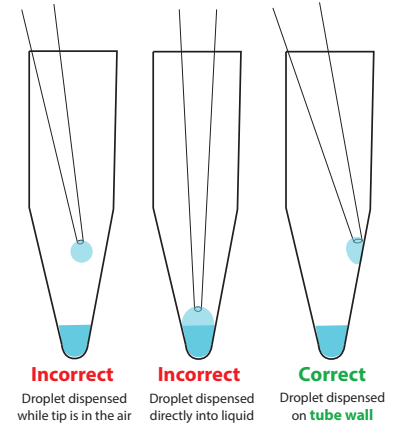

Figure 4. Pipetting Technique
1. Manual Pipetting Technique: All reagent additions should be dispensed onto the wall of the tube or well as shown in Figure 4. To avoid material loss in the reaction, it is important to avoid direct contact between pipet tips and the cell suspension, lysate, or other reaction intermediaries during manual reagent additions. Loss of a small amount of liquid is unavoidable whenever the pipet tip is allowed to come into contact with the reaction mix.